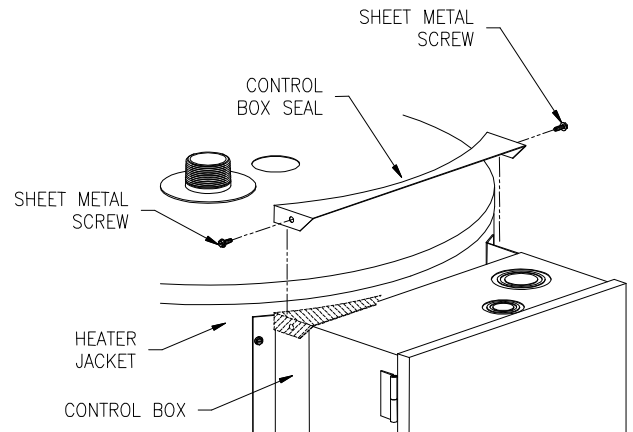

Figure 1
1. Place control box seal on top of control box sealing gap between control box and water heater jacket. Attach control box seal to control box using two (2) sheet metal screws (see **Figure 1**).